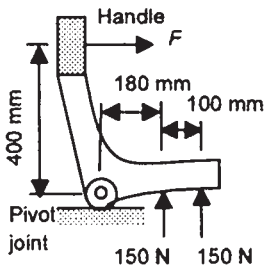

Figure 2.38 Problem 19
- 19 Figure 2.38 shows a control lever. Determine the size of the force F required to just maintain the lever in the position shown.